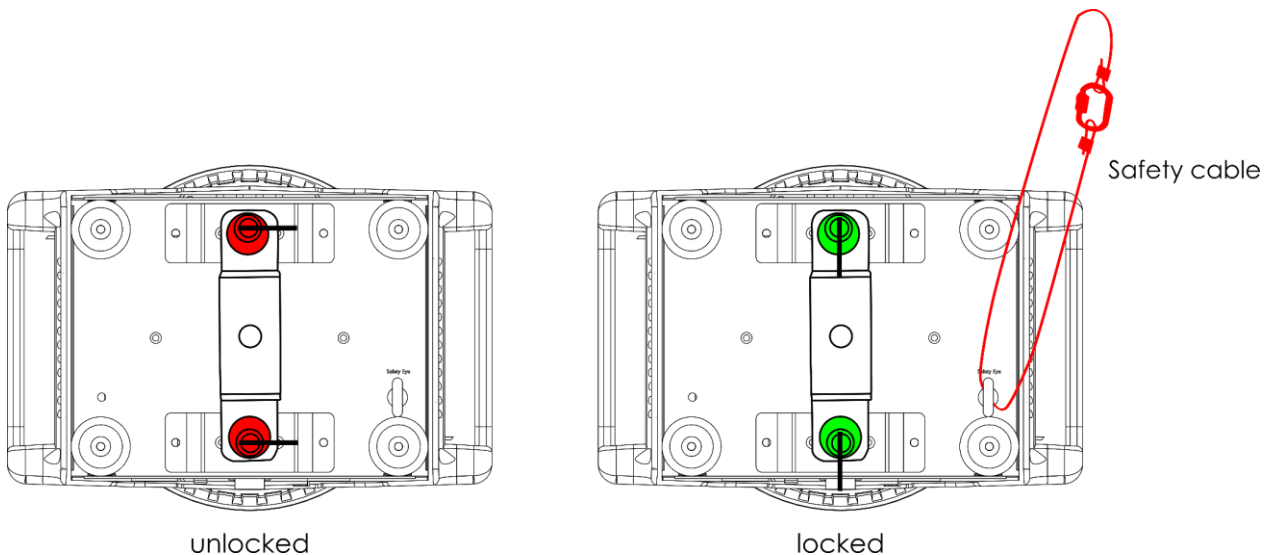

Fig. 10
- 02) Fasten the quick lock bracket, supplied with the device, on the **mounting holes for quick lock bracket (11)**, as shown in Fig. 10.
- 04) Secure the device with a secondary suspension, for example a safety cable. Make sure that the secondary suspension can hold 10 times the weight of the device. If possible, the secondary suspension should be attached to a supporting structure independent of the primary suspension. Put the safety cable through the safety eye as shown in Fig. 10.